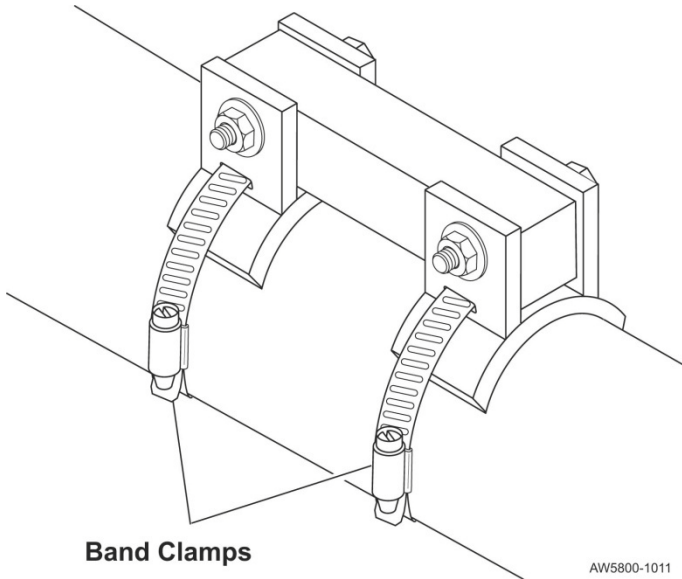

Figure 29. Attaching Band Clamps
- C. Place a band clamp (p/n: 139-0016-000) through the slot in the bottom of each bracket and wrap band clamp around trunnion tube. See Figure 29, next page.